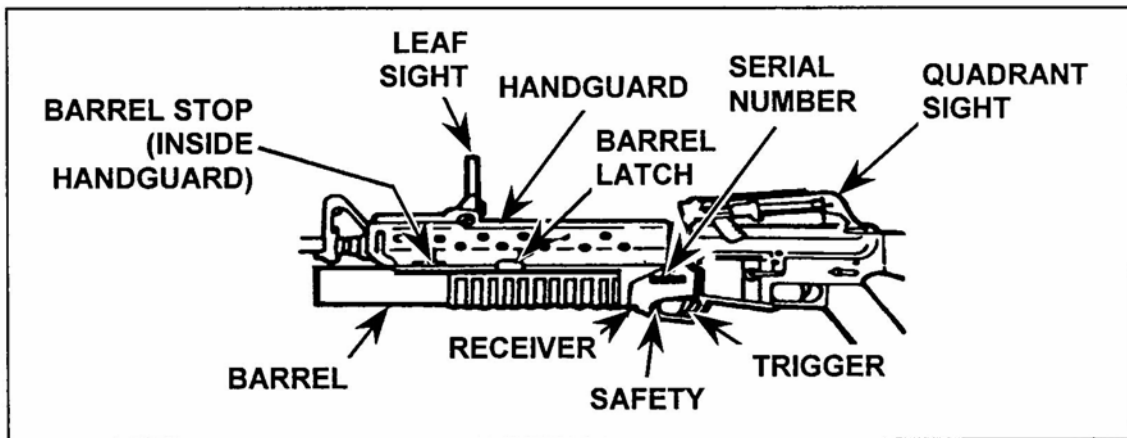

Figure 071-311-2125-1
2. Disassemble the M203 (Figure 071-311-2125-1).